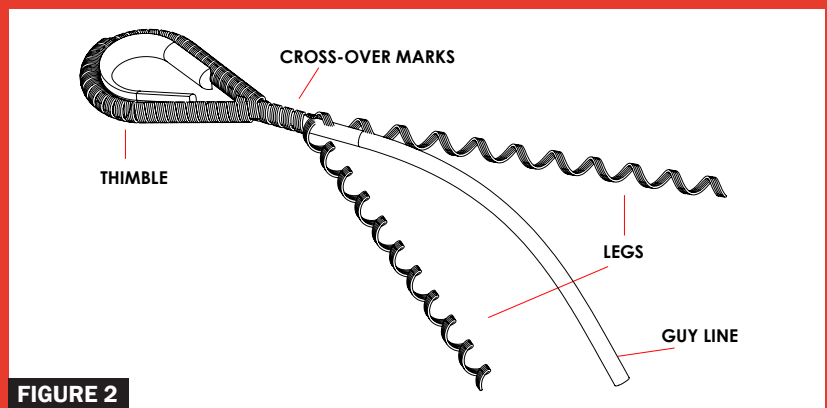

FIGURE 2
- Insert thimble into eye of Big Grip following "Installation Guidelines". Install Big Grip with thimble through attaching hardware. Begin the installation for the grip at the cross-over marks (figure 2).